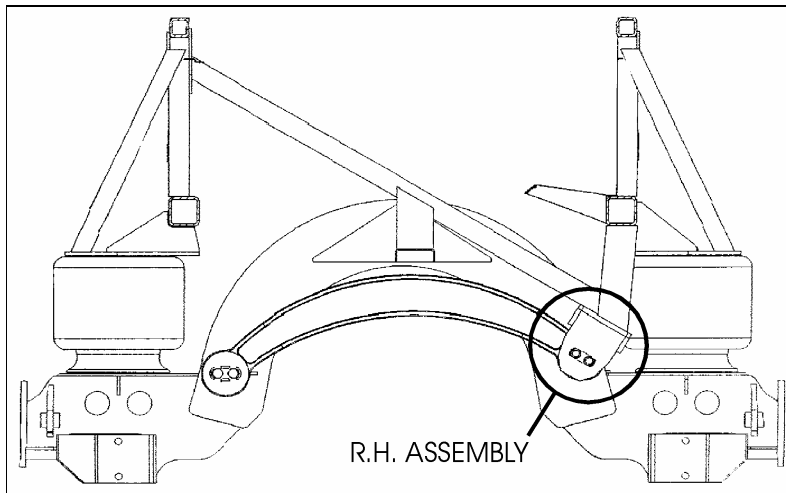

FIGURE 9 TAG AXLE - VIEW FROM REAR
1. Identify on R.H. assembly of tag axle transversal radius rod, the two bolts (with nuts) fastening the plate-pivot assembly of transversal radius rod to its support (refer to figures 9 and 10).